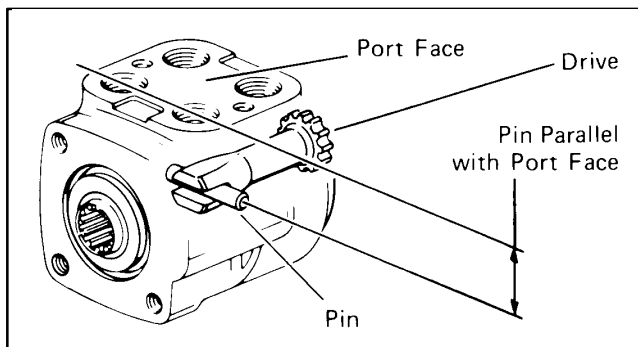
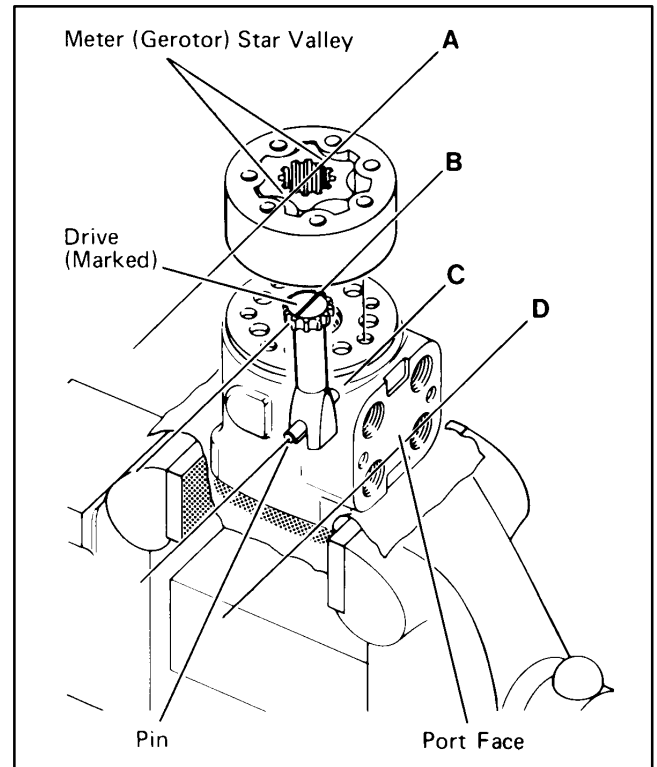

Figure 46
Figure 48
20. Rotate spool and sleeve assembly until pin is parallel with port face, see Fig. 46. (Install drive, make sure you engage drive with pin. To assure proper alignment, mark drive as shown in Fig. 48 (ref. B). Record the relationship between slotted end of drive to splined end of drive when marking.
22. With seal side of meter toward spacer plate, align star valleys (ref. A) on drive (ref. B). Record the parallel relationship of reference lines A, B, C, and D in Fig. 48. Align bolt holes without disengaging meter from drive.